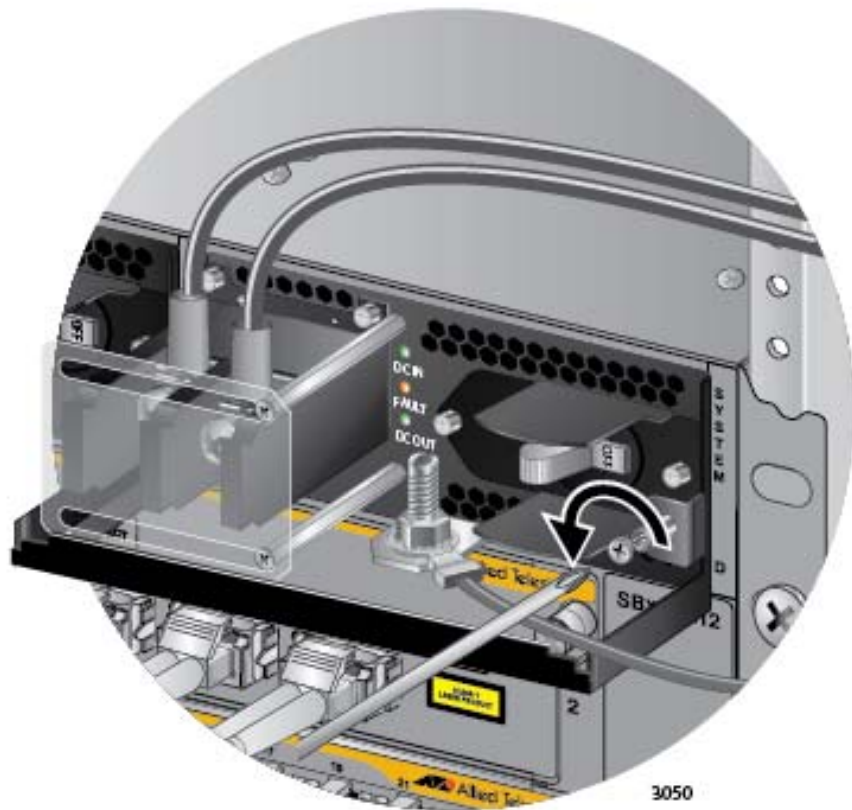

Figure 149. Loosening the Screw on the Locking Handle
3. Use a #2 screwdriver to loosen the screw on the locking handle. Refer to Figure 149.